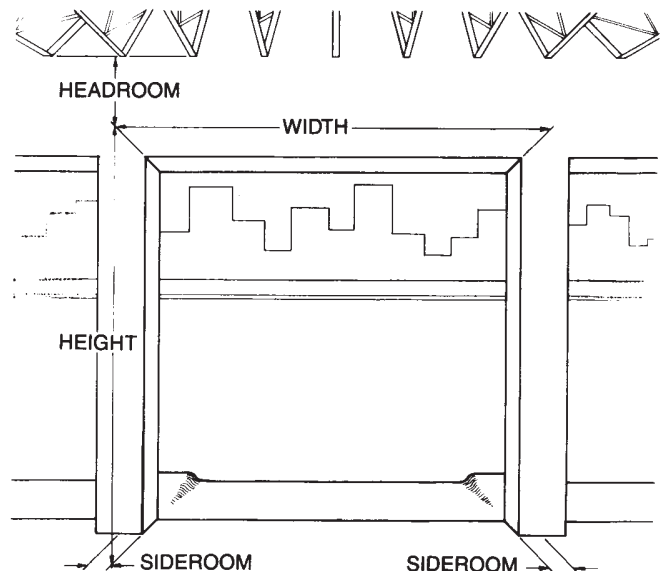

Fig. 1
- C** Check Chart No. 1, and Figure 1 below, to determine amount of headroom, sideroom, and depth into room required for this particular door. Make sure **NOW** that all of these clearances are available.